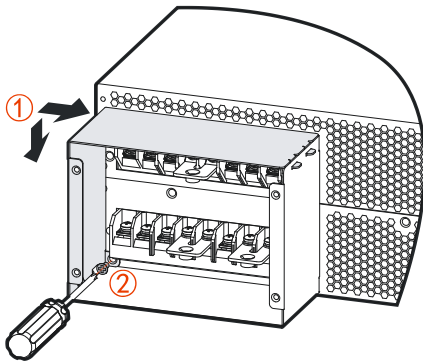

Figure3-17 Install type-L protection plate 2
- Step 2 Insert the other type-L protection cover into the installed one, and fasten it by 2 pieces of flat head screw M4, as shown in Figure3-17.